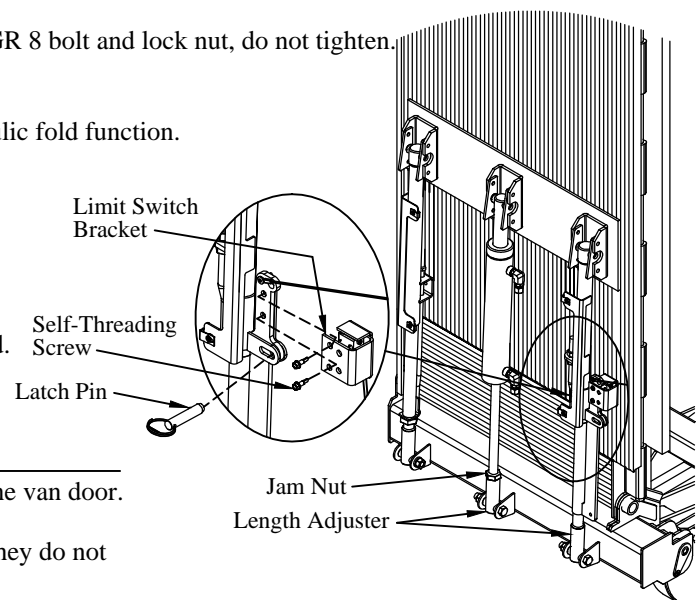

Figure 19: Platform latch and adjustment.
4. **Install** the limit switch bracket on the passenger side support arm with two (2) #12 self-threading screws. See Figure 19 for bracket shipping location. Make sure that the limit switch is not in the pushed position.
3. **Support** the platform to keep it from falling or hitting the van in the next steps (Figure 19).